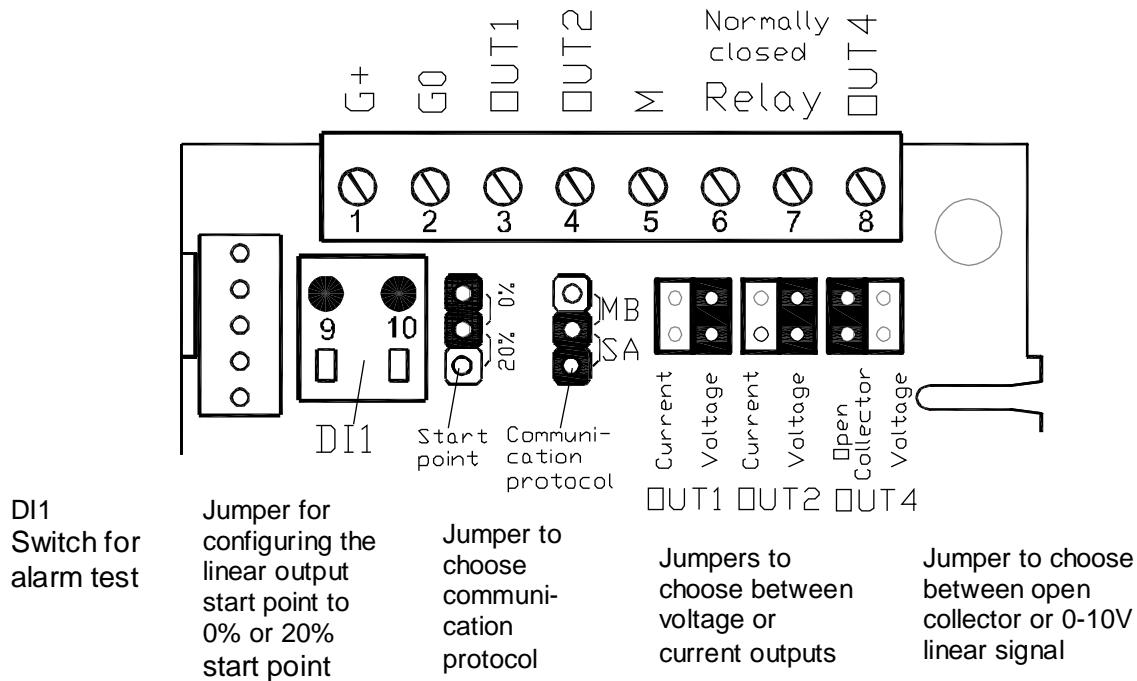

Fig. 3. Terminals and jumpers on *aSENSE™ m III*. The darker positions are default settings.
1. **Dismount the wall plate.** The sensor is delivered with the wall plate mounted. The wall plate has to be removed before the sensor is mounted onto the wall. Unscrew the screw on the side of the box. See figure 3.
The sensor is delivered with the wall plate mounted. The wall plate has to be removed before the sensor is mounted onto the wall. Unscrew the screw on the side of the box. See figure 3.